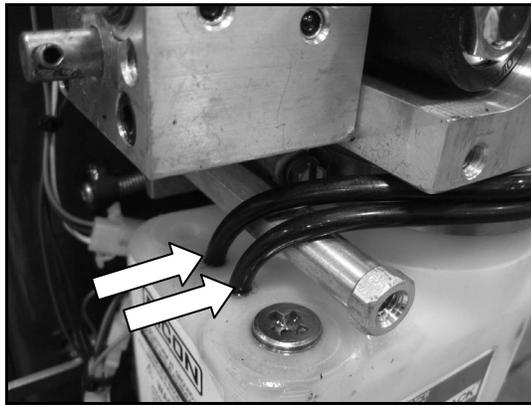

FIGURE 3-40
4. Refer to **Figure 3-40**. Disconnect two breather lines from pump only.